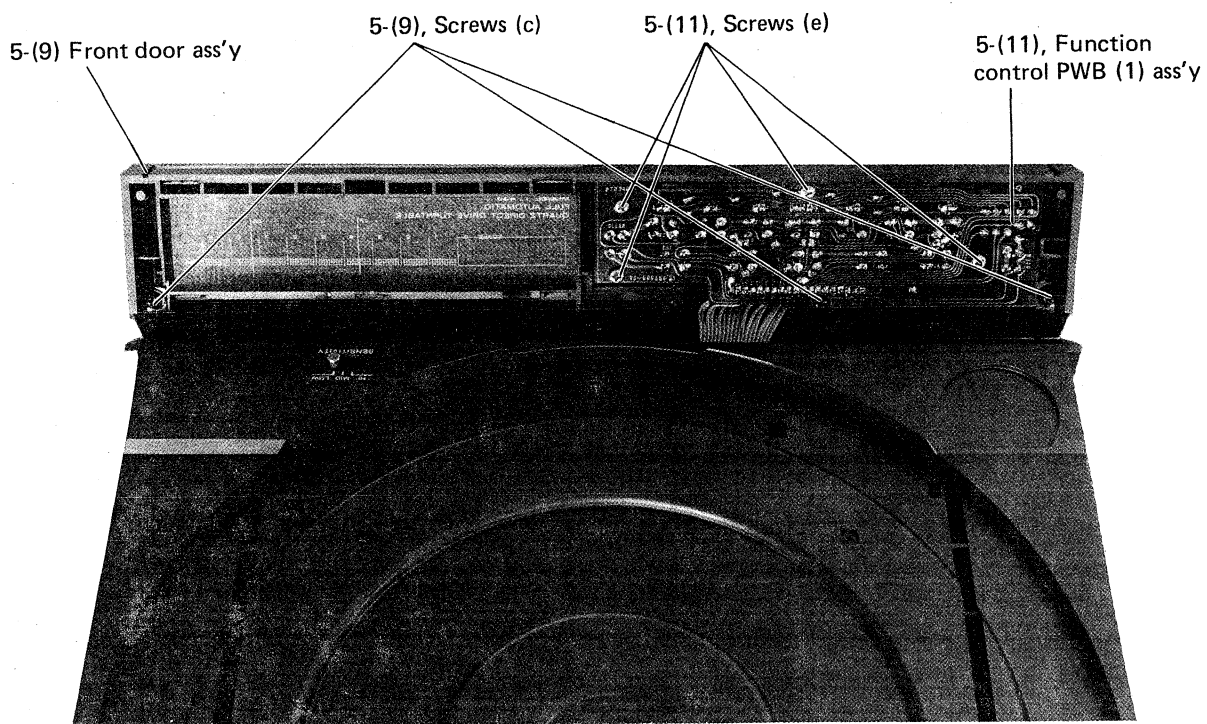

Fig. 14
- (9) Front door ass'y. (See fig. 14)
- (11) Function control PWB (1) ass'y (See fig. 14)